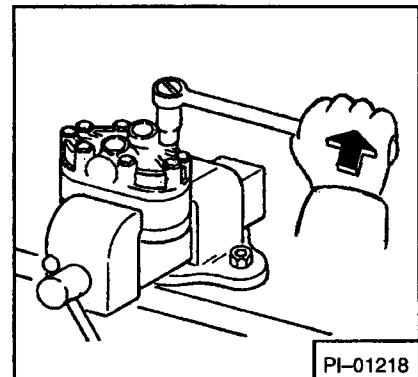

Fig. 4-40 Holding Pump In Vise
4. Remove pump from vise. Separate pump plates by hitting shaft onto a wooden block (Fig. 4-40).
11. Install bolts and tighten them evenly to 25 ft.-lbs. (34 Nm) (Fig. 4-40).